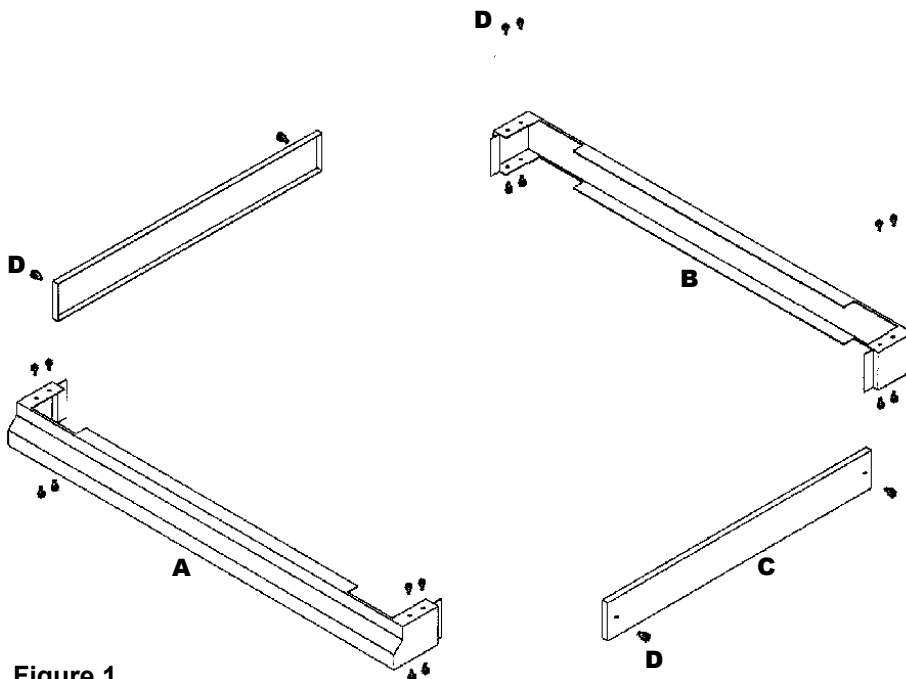

Figure 1
1. Assemble loosely the front (A), back (B) and sides (C), with one screw (D) at each corner (Figure 1), in from the sides.
2. Place stacking assembly on top of the proofer and secure stacking kit front and rear (A & B) to the proofer, using 2 screws (D) in each corner of the unit (at front and back up from the sides).